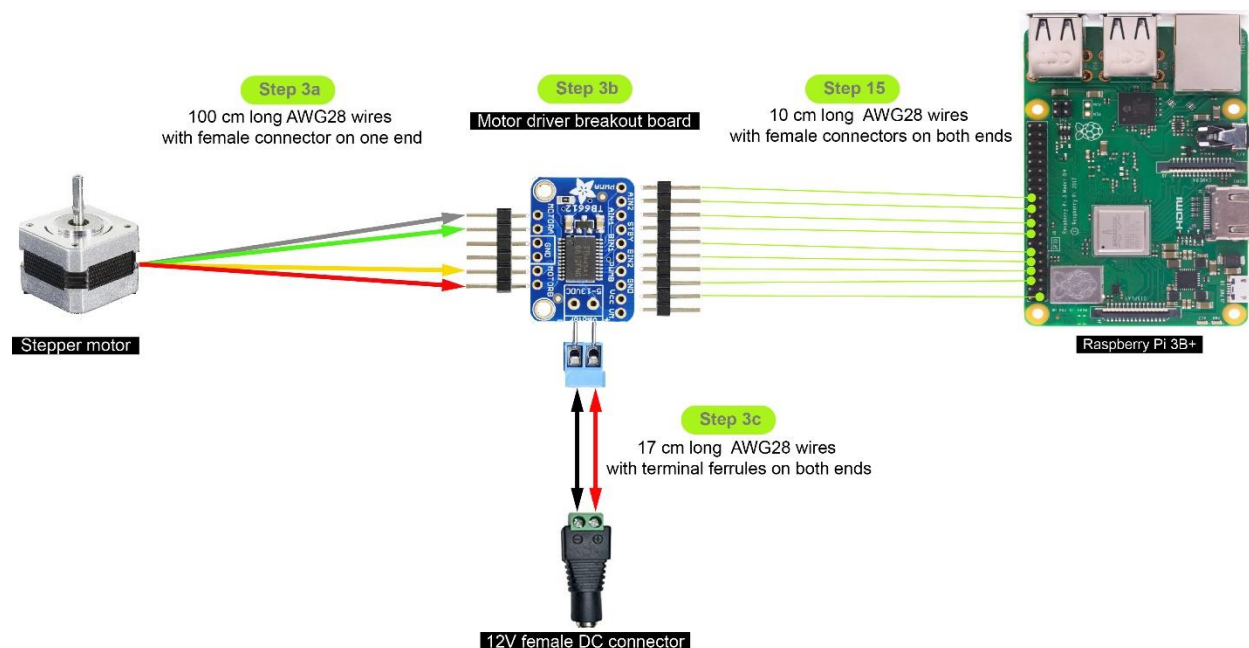

Figure 2. Wiring the stepper motor.
- Please keep the color coding of the wires already attached to the motor: grey, green, yellow, red (Fig. 2).